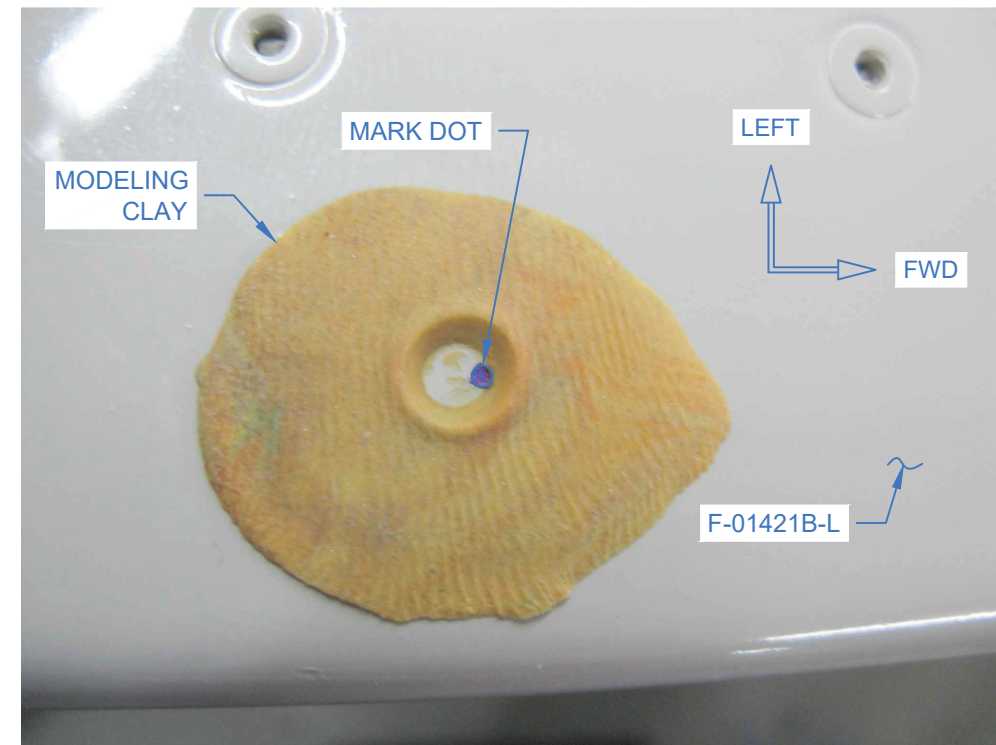

FIGURE 2: MODELING CLAY
Step 3: Lower the canopy until the tip of the C-01458 Guide Pin contacts the canopy deck and forms a depression in the clay as shown in Figure 2.
Step 4: Mark a dot on the canopy deck at the forward edge of the depression with the tip of a fine point permanent marker. See Figure 2.